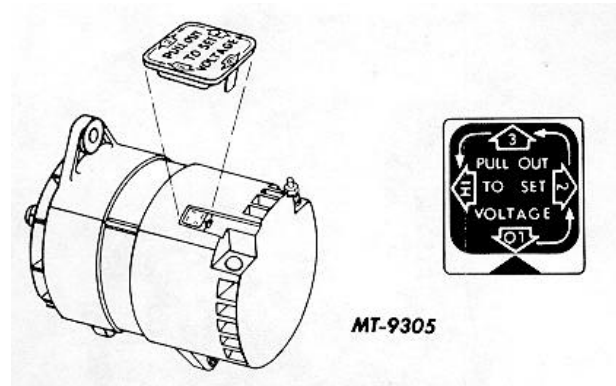

Fig. 6 Voltage Adjustment Cap
- f. If ampere output is within 10 percent of rated output as stamped on generator frame, Integral Charging System is not defective. In this case, an adjustment of the voltage setting may correct the undercharged condition. Raise the setting by removing the voltage adjusting cap, rotating in increments of 90°, and then reinserting the cap in the connector body. As illustrated in Fig. 6, the cap is set for low voltage. With position 2 aligned with the arrow, the setting is increased to medium low, position 3 is medium high, and position "HI" is the highest regulator setting. After adjusting the setting, check for an improved energizer condition after a service period of reasonable length, such as one week. NOTE: The voltage adjustment in Fig. 6 is for purposes of illustration only. The actual adjustment as shipped from the factory may be in some other position, such as position 3, depending on the application requirement.
5. If voltage does not exceed the values listed in step 4 preceding, adjust voltage to a lower value by removing voltage adjusting cap and reinserting into connector body. Then check energizer or battery condition after a service period of reasonable length, such as one week. Fig. 6 is for purposes of illustration only and shows the cap adjusted for the lowest setting. The actual adjustment as shipped from the factory may be in some other position, such as position 3, depending on the application requirement. The lowest setting is with "LO" aligned with the arrow, position 2 is in medium low, position 3 is medium high, and "HI" is the highest setting.